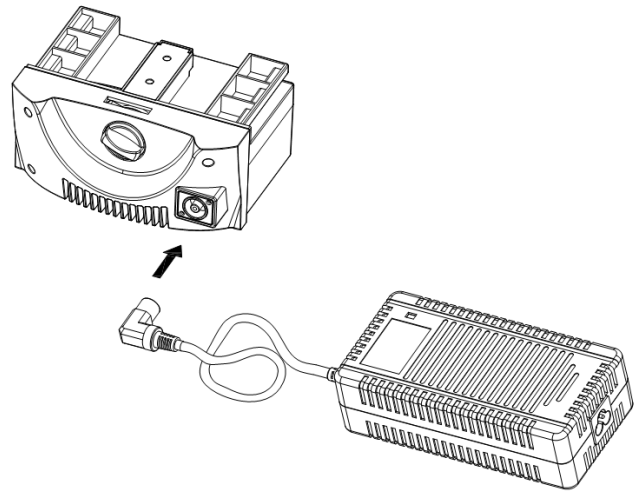

Fig 23
4. Plug the round connector on the charger's cord into the battery pack (Fig. 23).